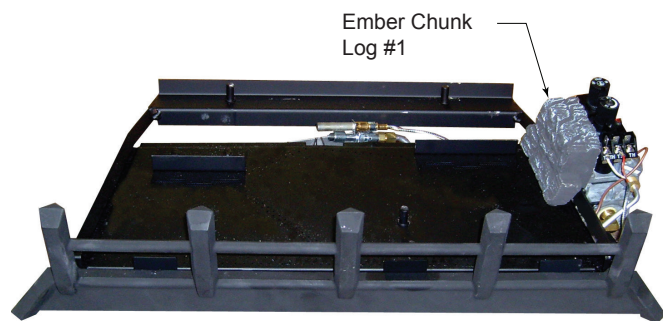

Figure 6.3 - Log #1 Placement
1. Place the #1 log (the "chunk") on the grate bar right side of the burner adjacent to the controls. See Figure 6.3 .